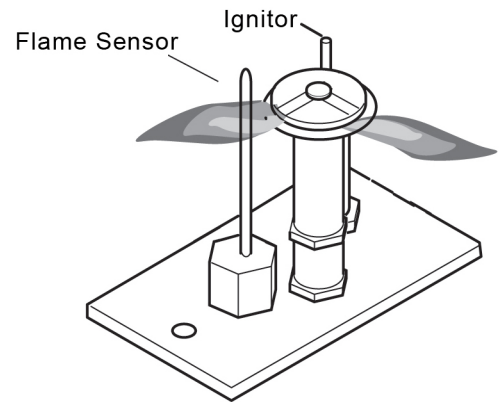

Figure 39 - Before taking unit apart, check pilot flame. Flame should touch Flame Sensor and Ignitor.
1. Check pilot flame. Flame should touch approximately $\frac{3}{8}$ " of the top of Flame Sensor and Ignitor. See Figure 39. If not, contact dealer for service.